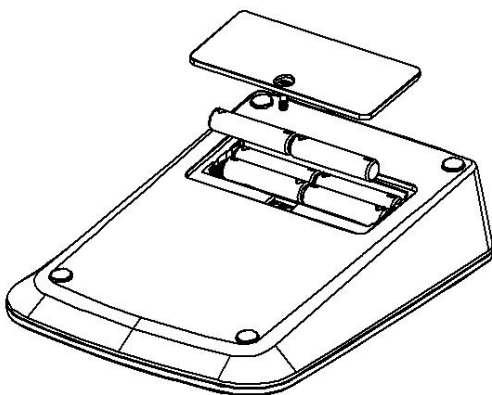

Figure 1: Battery compartment
1. Use a Philip screw driver and unlock the battery cover by turning the screw driver in the counter clockwise direction. After unlocking the screw, take off the battery cover (Fig.1)